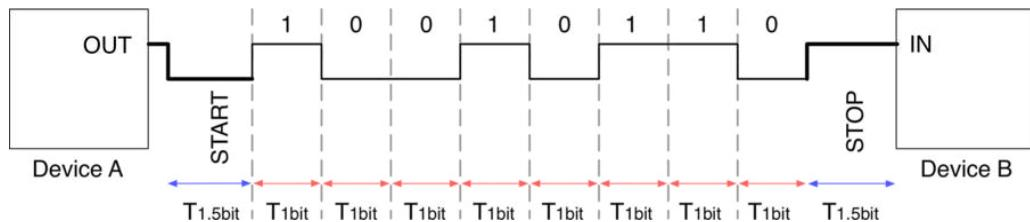

Figure 2: The timing diagram of a serial communication without a dedicated clock line
**Figure 2** shows the timing diagram of an asynchronous transmission. The idle state (that is, no transmission occurring) is represented by the high signal. Transmission begins with a START bit, which is represented by the low level. The negative edge is detected by the receiver and 1.5 bit periods after this (indicated in Figure 1s  $T_{1.5bit}$ ), the sampling of bits begins. Eight data bits are sampled. The least significant bit (LSB) is typically transmitted first. An optional parity bit is then transmitted (for error checking of the data bits). Often this bit is omitted if the transmission channel is assumed to be noise free or if there are error checking higher up in the protocol layers. The transmission is ended by a STOP bit, which last 1.5 bits.